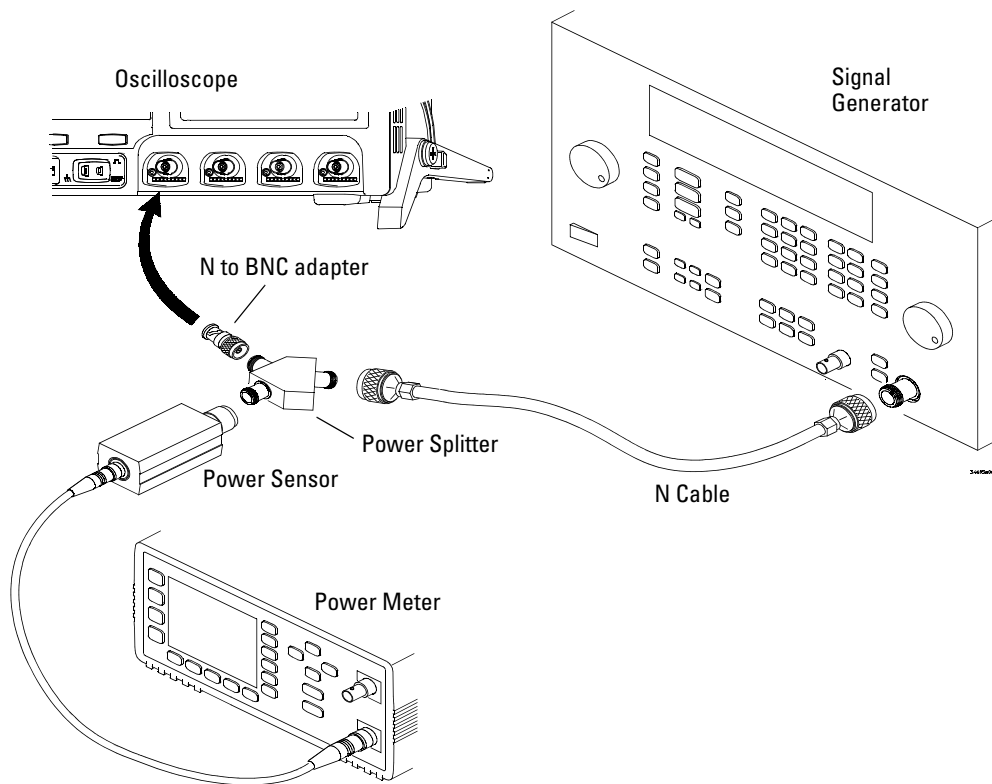

Figure 5 Setting Up Equipment for Bandwidth Verification Test
- 1** Connect the equipment (see Figure 5).